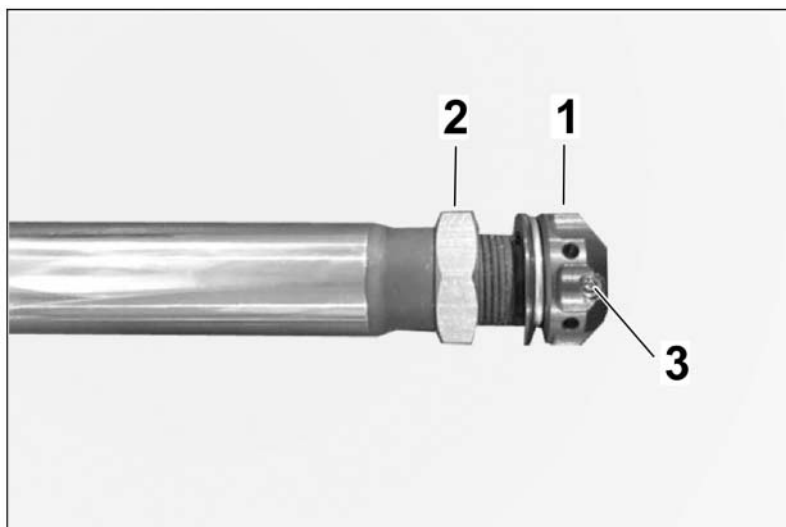

Figure 4
1. – Carefully mount the lift unit on the housing of the new shock absorber. Push the lift unit up to the collar on the damper housing (end stop). Align the connection of the lift unit with the holes in the bottom of the housing. ⇒ *Figure 4 -Arrow and line-* Do not use force during assembly. Never hit the upper edge of the lift unit (gasket) with a hammer.